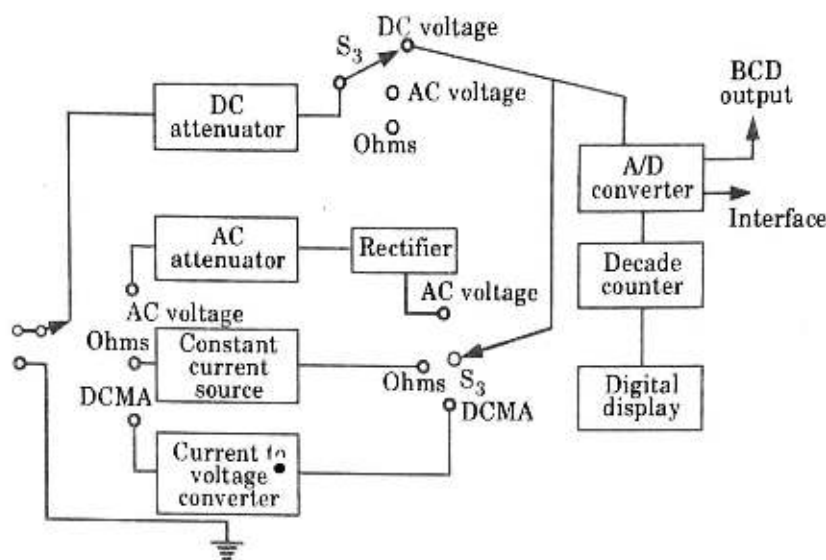

Fig. 2.16.1. Digital multimeter.
5. The block diagram of a DMM is shown in Fig. 2.16.1.